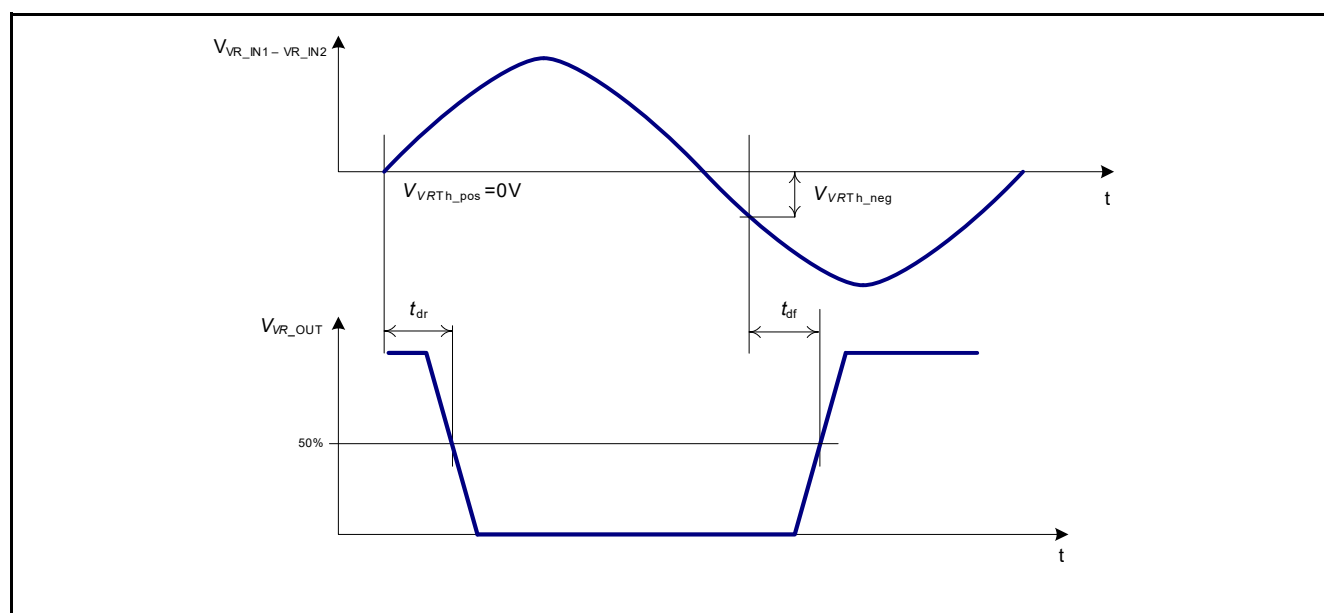

Figure 12 Timing characteristics of the VR sensor interface
The variable reluctance (VR) sensor interface converts an output signal of a VR sensor into a logic level signal suited for μC 5 V input ports. The voltage difference between the two input pins, **VR_IN1** and **VR_IN2**, which are connected to the two output pins of the VR sensor, is detected and the output pin **VR_OUT** is switched depending on the sign of the voltage difference (see **Figure 12**). The amplitude of the VR sensor signal is limited by an internal clamping circuit to avoid damage of the device due to over voltage caused by the VR sensor signal.